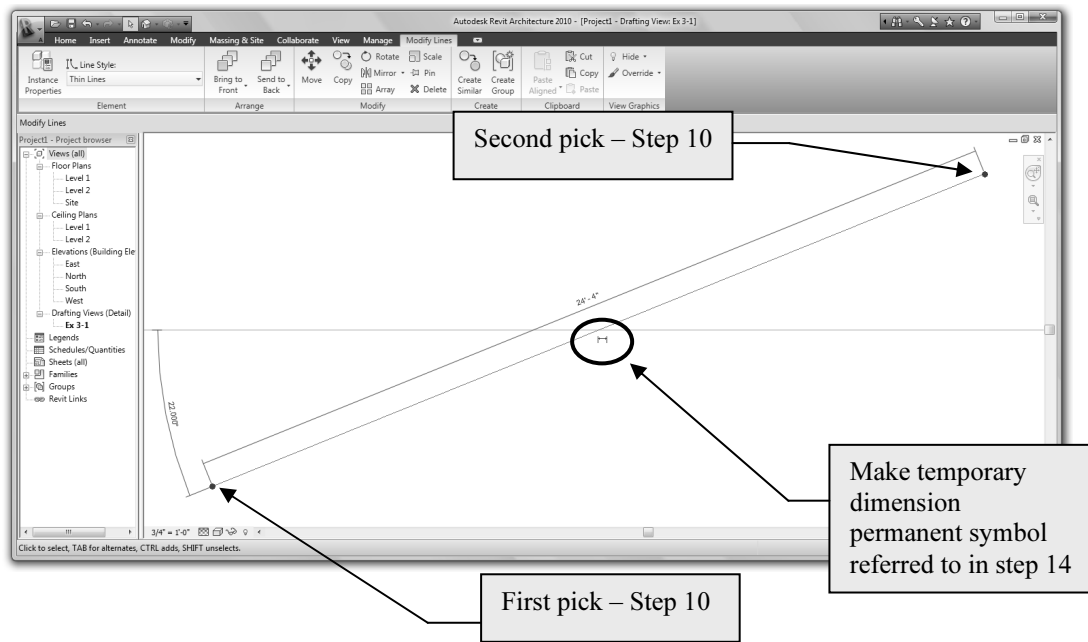

Figure 3-1.6 Your first detail line, exact dimensions are not important at this point.
NOTE: Do not drag or hold your mouse button down; just click (Figure 3-1.6).
Notice that the temporary dimensions have returned (Figure 3-1.6).
14. With the diagonal line still selected, click the “make this temporary dimension permanent” symbol near the dimension (Figure 3-1.6).